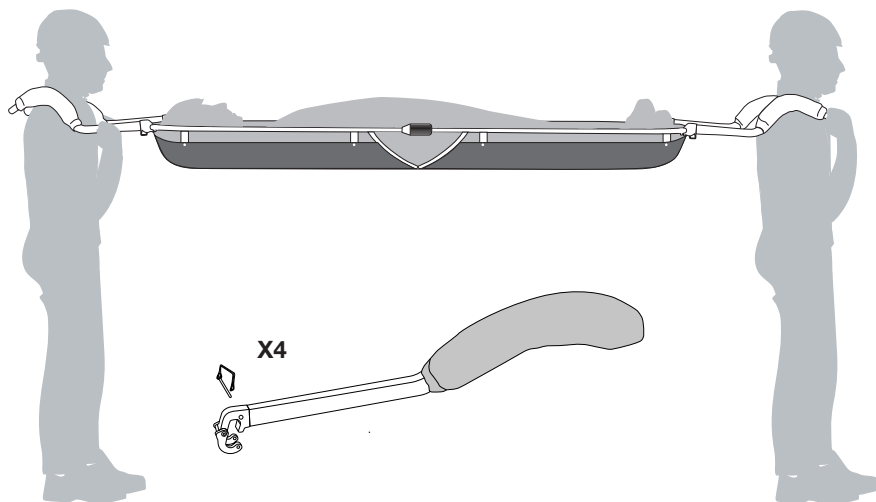

Fig.2
- **Transport with the handles (fig. 2)**